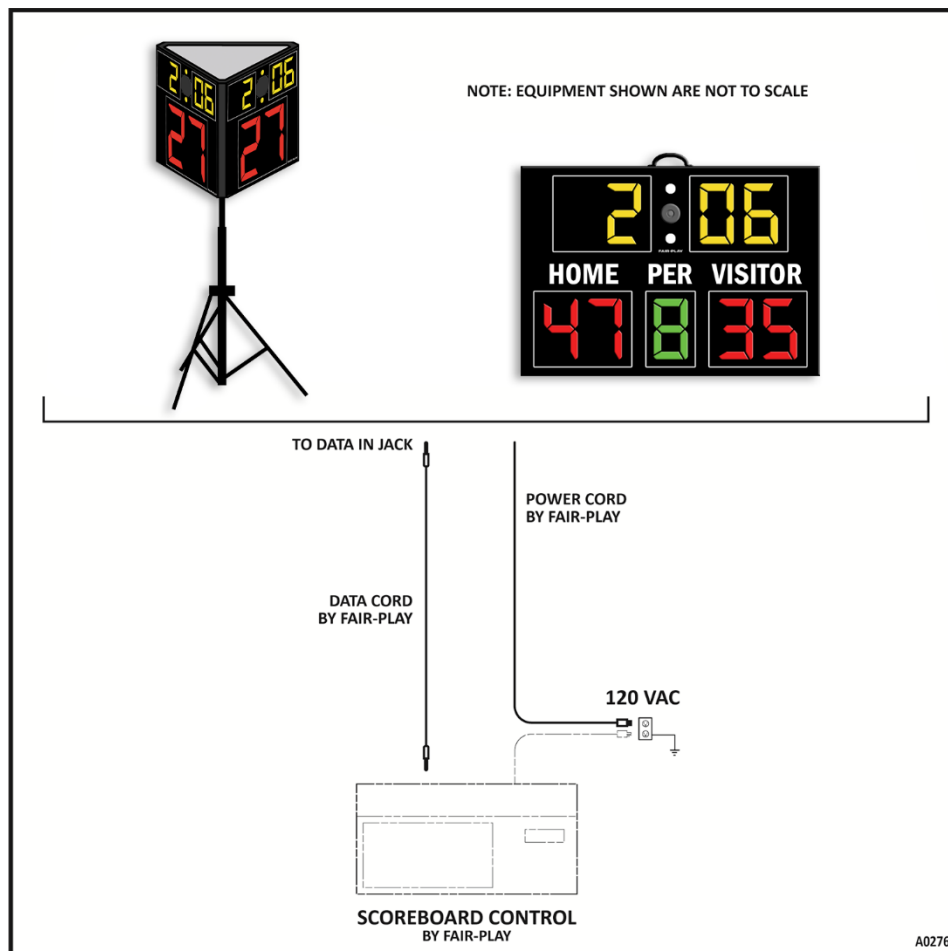

FIGURE 7 – POWER & DATA TO PORTABLE INDOOR SCOREBOARD
- Three-sided models are mounted on a Floor Stand or placed on a table. Refer to Figure 7 below.
Portable scoreboard models (single sided, two sided and three sided) are equipped with an attached power cord and provided with data cables with plug connectors. Refer to Figure 7 below.